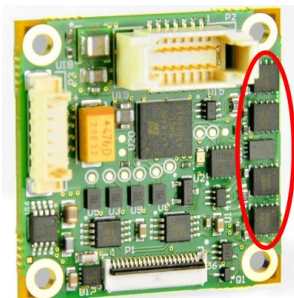

Figure 2: Proxy Board detail.
- The heatsink should be designed to have a reasonable margin and the Proxy Board should not be operated at the absolute maximum rating, the components circled red (Figure 2) need to be cooled.